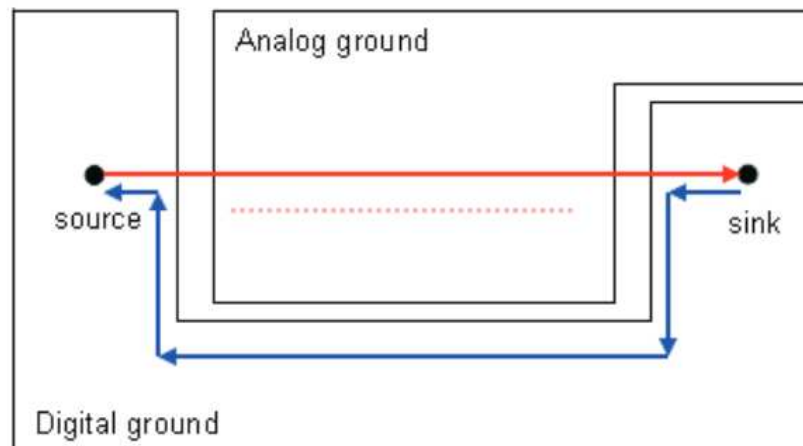

Figure 22. Loop Area and Crosstalk Due to Poor Signal Routing and Ground Splitting
- A routed trace over a gap creates large loop areas, because the return current cannot flow beside the signal. The signal can induce noise into the nonrelated reference plane (see Figure 22).
Do not route a signal referenced to digital ground over analog ground and vice versa (see Figure 22). The return current cannot take the direct way along the signal trace and so a loop area occurs. Furthermore, the signal induces noise, due to crosstalk (dotted red line) into the analog ground plane.